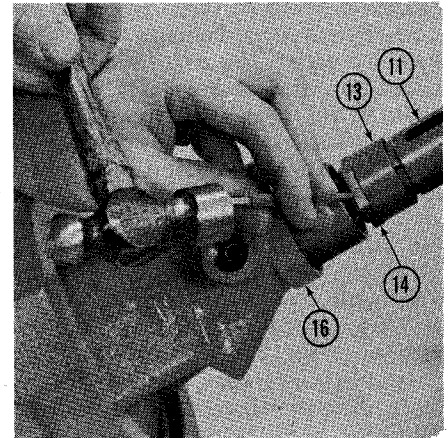

Fig. 11—After installing steering shaft on Hydramotor actuator shaft, stake hex nut to slot in steering (11) with center punch.
Reassemble the unit before reinstalling on actuator shaft as follows: Install tapered ring (13) on outer shaft (11), with large I.D. first. Install a new nut (14) just far enough to catch one or two threads of outer shaft. Engage splines of outer shaft on splines of actuator shaft. Align hole in tapered ring, hole in outer shaft and groove around the actuator shaft, then drop locking ball in hole and groove and turn tapered collar 1/4-turn. Tighten the hex nut to a torque of 40-50 ft.-lbs. and stake nut into slot in outer shaft as shown in Fig. 11.